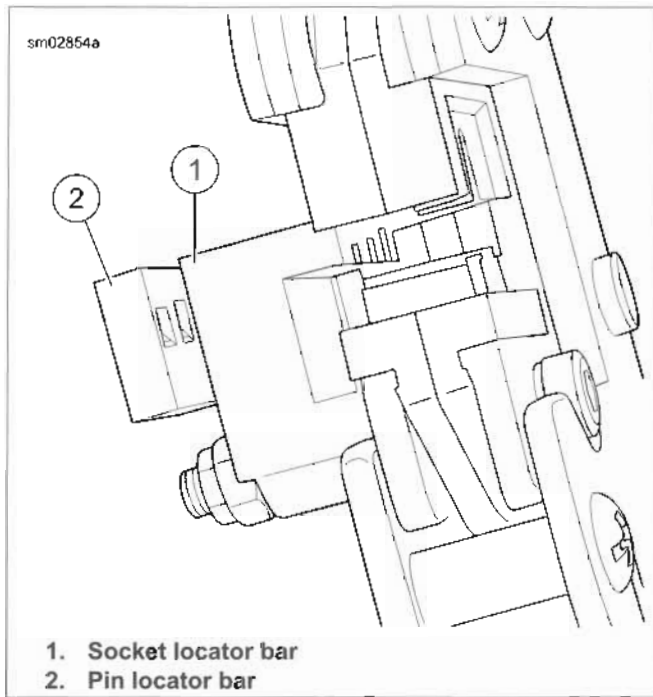

Figure A-53. Terminal Locator Bars
- a. **Socket Terminal:** See Figure A-53. A socket terminal stops against the back face of the socket locator bar (1).